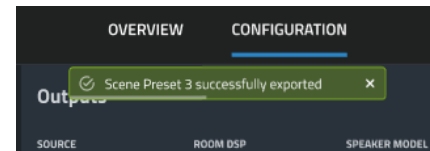

Figure 46: Export Scene Preset
- Once the Scene Preset is successfully exported, there will be notification on the top of WebUI as shown in **Figure 46**.